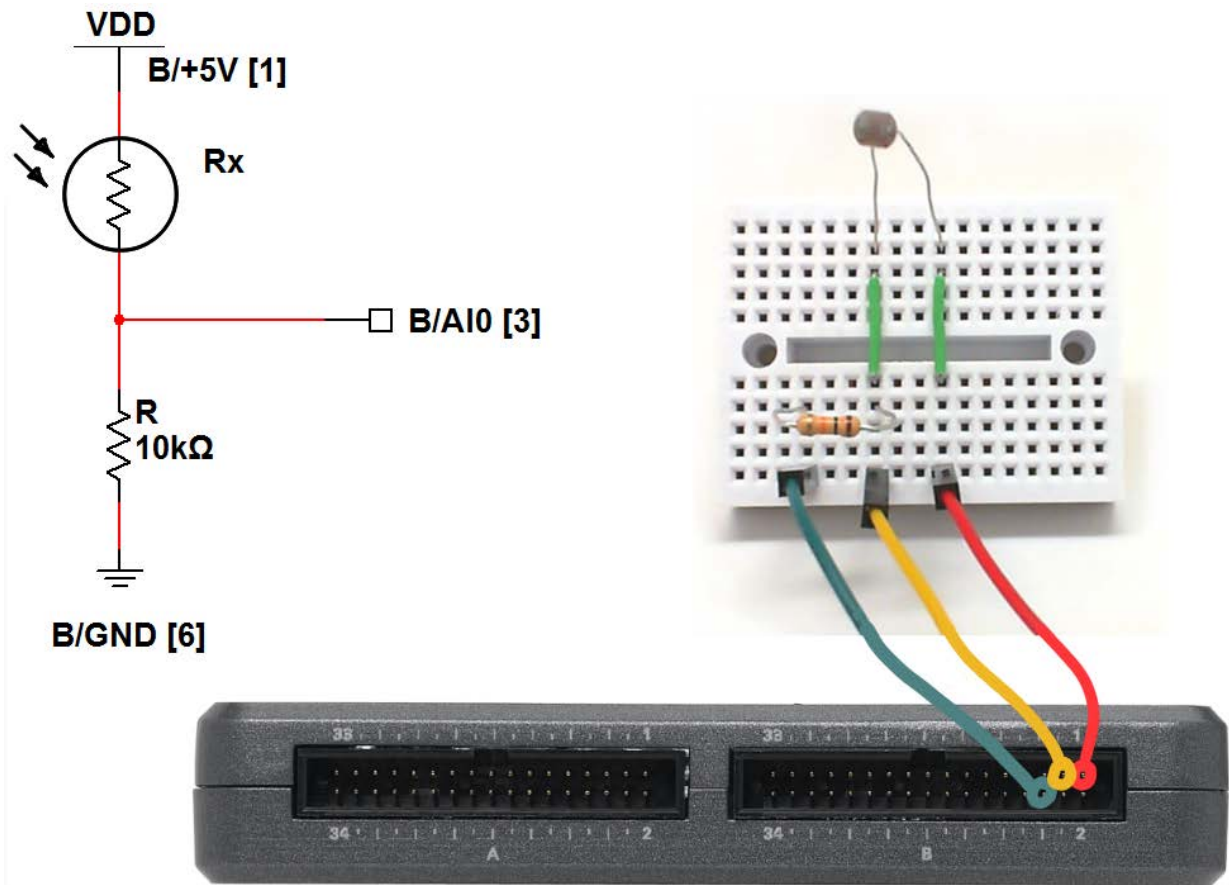

Figure 9.2: Demonstration circuit for photocell: schematic diagram, recommended breadboard layout, and connection to NI myRIO MXP Connector B.
**Build the interface circuit:** Refer to the schematic diagram and recommended breadboard layout shown in Figure 9.2 on the following page. The interface circuit requires three connections to NI myRIO MXP Connector B (see Figure A.1 on page 233):